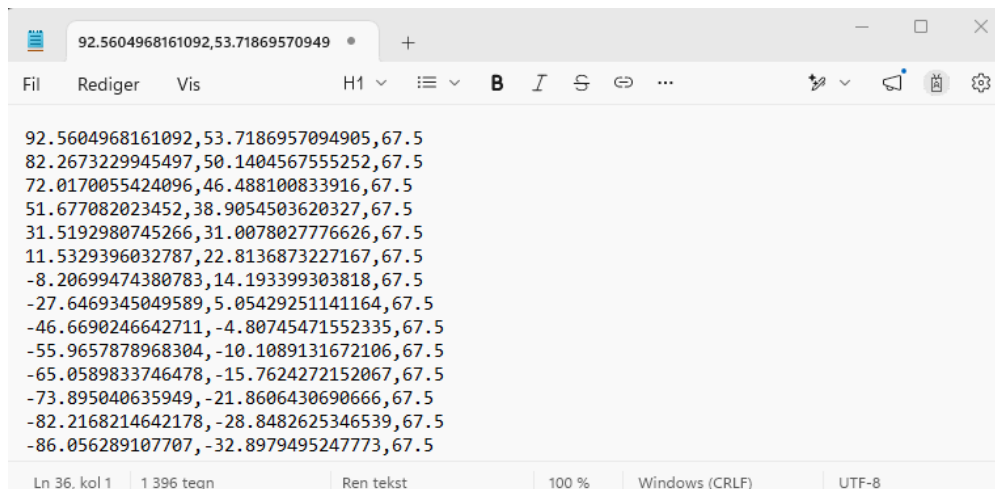

Figure 11
- And further paste in the coordinates copied from the Excel sheet. The coordinate-file should look like the file in Figure 11. In this example we have copied all the coordinates from section 2.